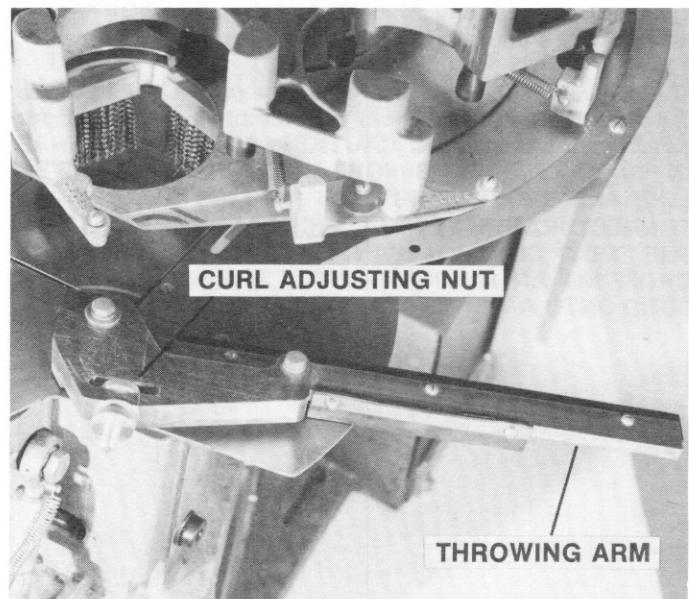

Figure 3 — Throwing Arm in Uncocked Position
3. The throwing arm should be in uncocked position (see Figure 3). If throwing arm is not in uncocked position. "Safe Release" the trap as explained in Section II. (page 1).
- F. Throwing arm will fire thru to safe released position (see Figure 3).
- J. **NOTE:** Targets may break or jam if less than two (2) are left in each magazine stack.
- B. Turn curl adjusting nut (see Figure 3). Moving the throwing arm toward target will correct curl to right. Moving arm away from target will correct curl to left.